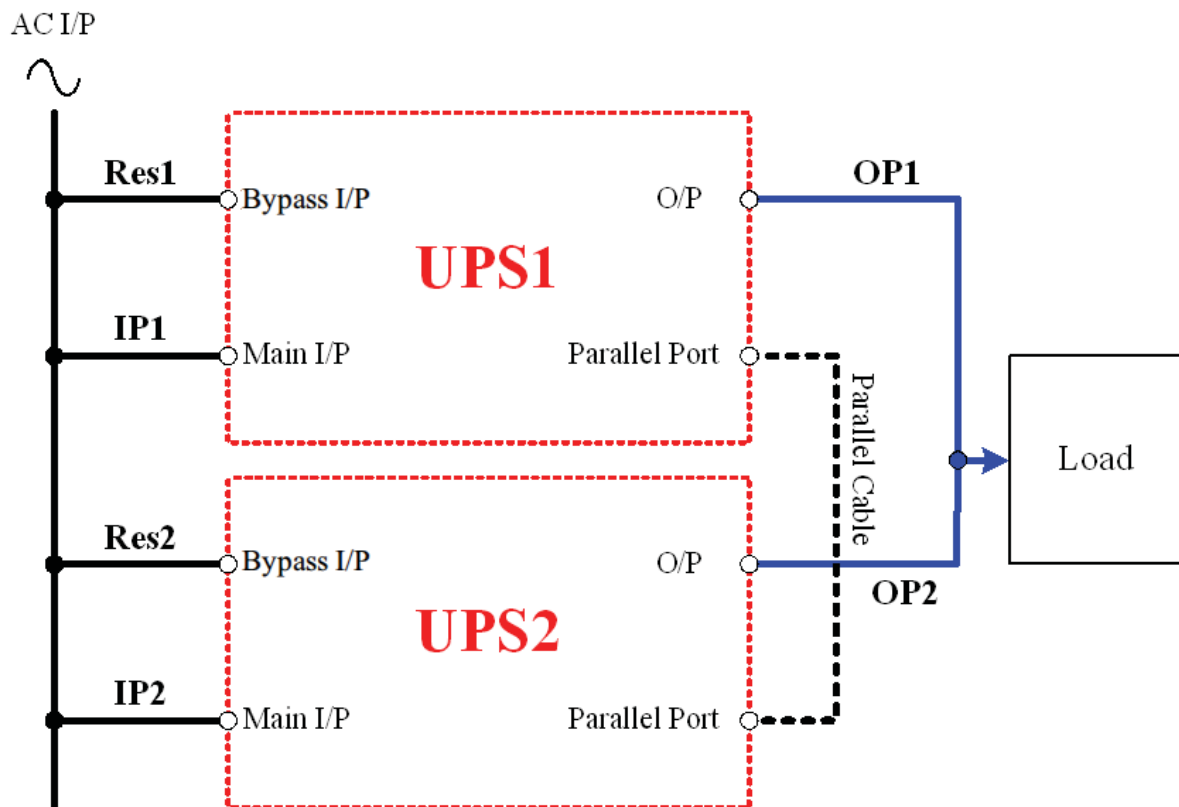

Fig. 4-7 Wiring (Parallel Redundancy, Single Input)
6. Connect the parallel communication cable between UPS1 and UPS2 (Refer Fig. 4-7).